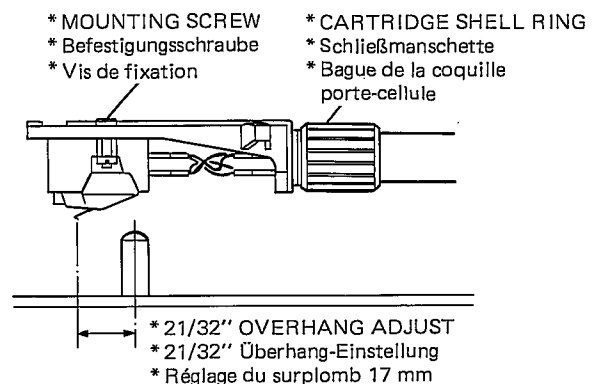

Fig. 13 / Abb. 13 / fig. 13
4. Overhang Adjustment: Move the tone arm over the turntable shaft and move the cartridge back or forth to obtain a space of $21/32''$ between turntable shaft and stylus tip. (Fig. 13)